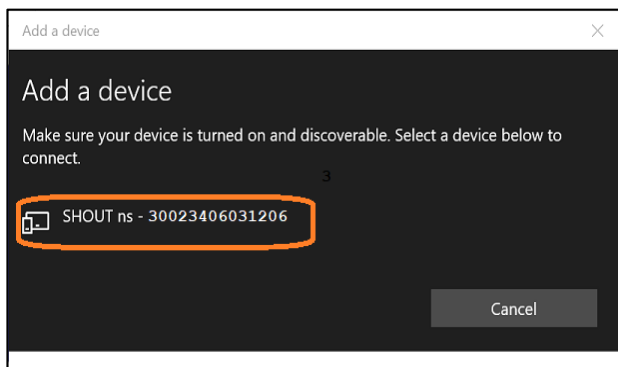

Figure 15: Add SHOUT ns
9. Select the **SHOUT ns** device (see **Figure 15**).